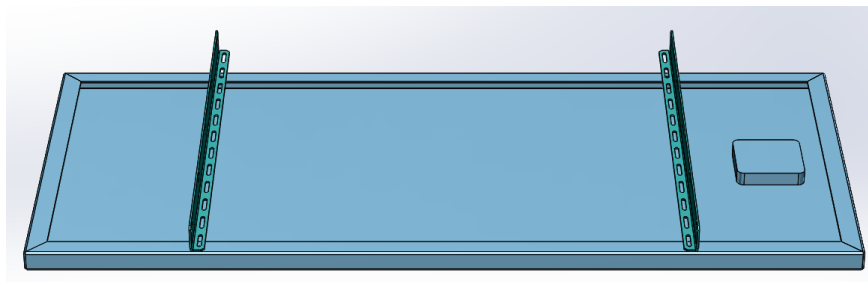

Figure 3. Mounting rails placed on rear surface of solar panel
4. Place the rails on the back of the panel so the lip of the rail containing the solar panel mounting slot/holes is facing the center of the solar panel as shown in **Figure 3**. Align one end of the rails to be approximately flush with the bottom edge of the solar panel.